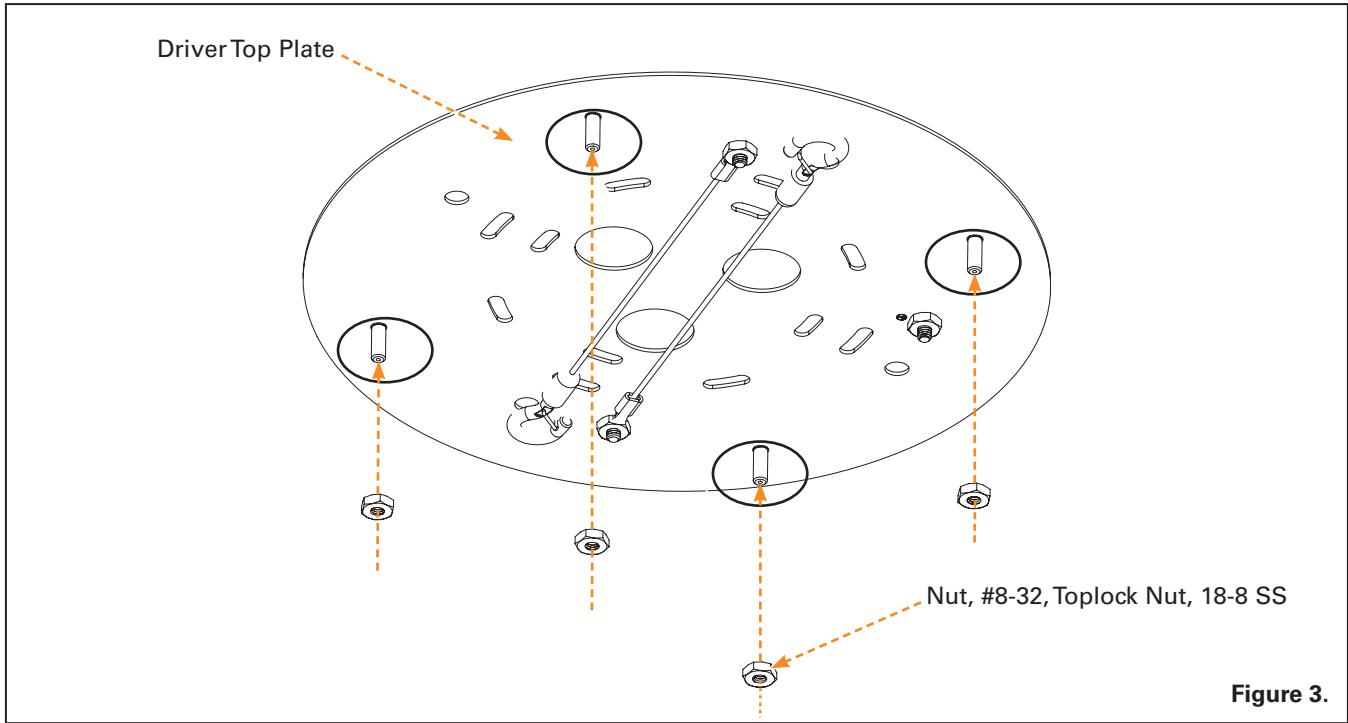

Figure 3.
Step 1. Preload the Top lock nut to the Driver top plate. Figure 3